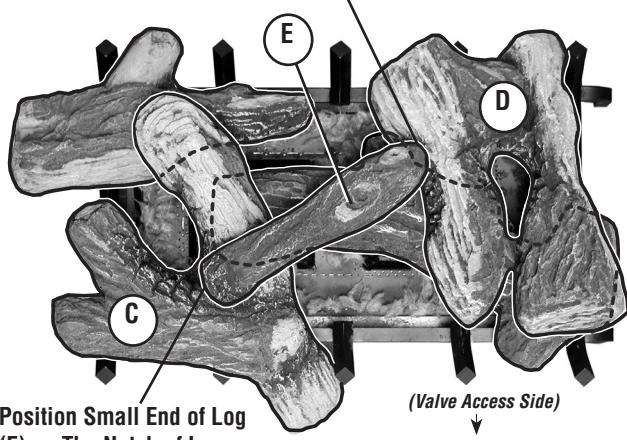

Figure 55
10. Place Log (E) as shown in **Figure 55**.